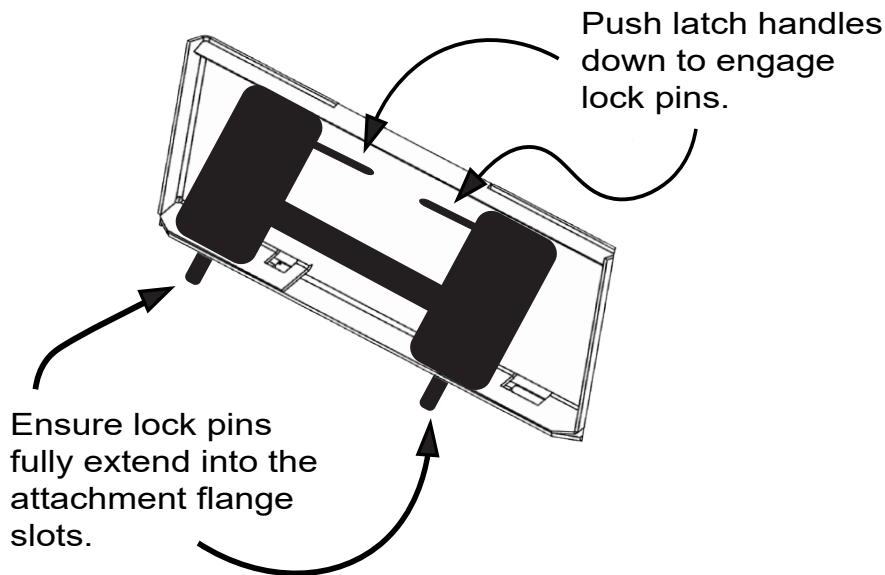

Figure 3.3b Lock Pins Engaged
4. Activate your skid steer's lever lock switch to engage and lock the pins into the flange slots of the trencher's attachment plate. If your skid steer does not have this switch, push the latch handles down until you can see the lock pins extend into the attachment flange. See Figure 3.3b on next page.